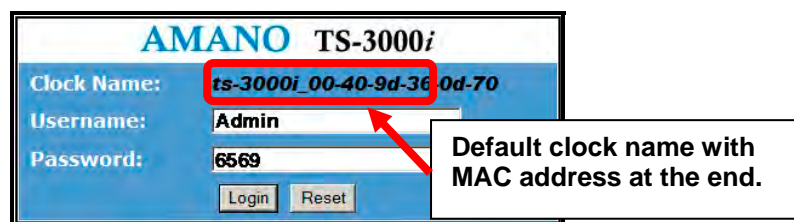

Figure 5-6. TS-3000i Web Clock Login.
Step 3. When the clock(s) appears in the list, follow the tool tip and double-click on the desired TS-3000i clock to launch your browser and open to the clock's web login (see *Figure 5-6*).